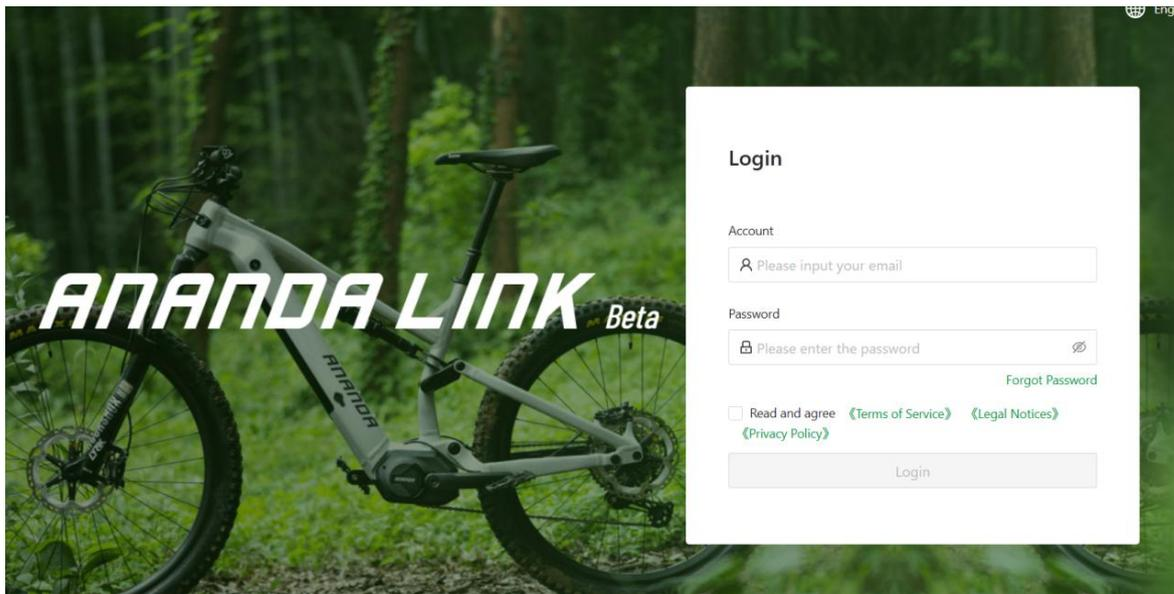

Fig5
- Click "SEND REQUEST" button.(Fig5)